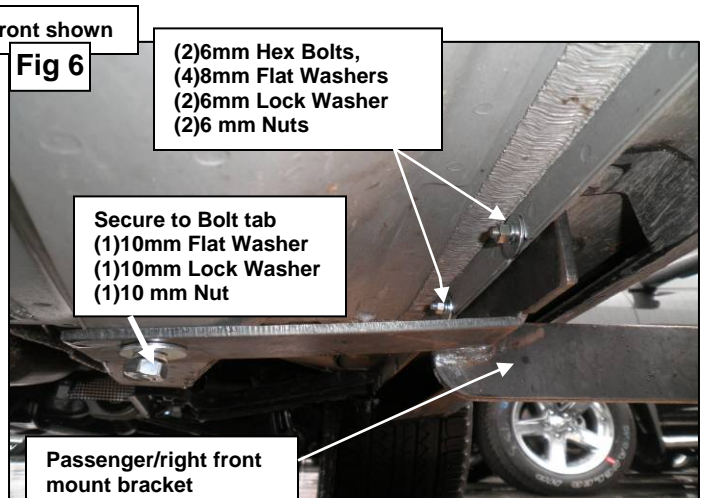
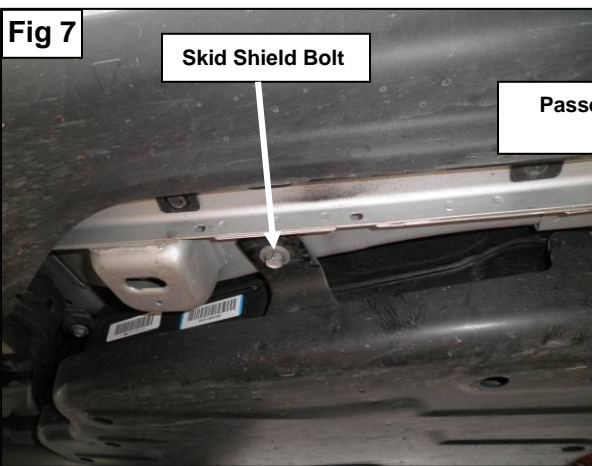

Fig 7
Fig 8
6. Locate and remove the rear skid shield bolt as seen in **(Fig 7)**. With bolt removed install the Passenger/right side bracket as seen in **(Fig 8)** to the bottom of the rocker panel drip rail with the (2) 6mm hex bolts, (4) 8mm flat washers, (2) 6mm lock washers and (2) 6mm Nuts re-attach skid shield bolt. Snug but do not tighten at this time.
7. Position Passenger Side Bar onto Mounting Brackets. Attach Side Bar to Mounting Brackets using the included (4) 10mm x 30mm Hex Head Bolts, (4) 10mm Lock Washers, and (4) 10mm Flat Washers Level and adjust Side Bar, then tighten all hardware at this time.